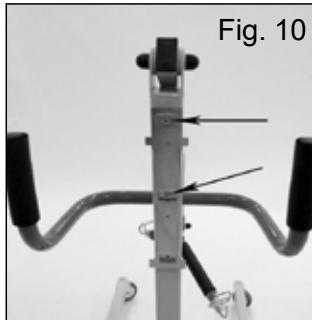

Fig. 10
1. Secure the support mount of the control unit to the mast with the provided screws, using the fitted cavities. (Fig.10)